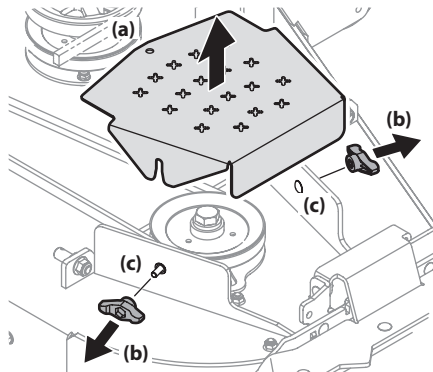

Figure 4-19
- To remove the belt covers (a), remove the wing knobs (b) from the carriage screws (c) securing it to the deck. See Figure 4-19.
- The speed nut should hold the carriage screw (c) and tab bolt in place, if not re-install as shown in Figure 4-19.